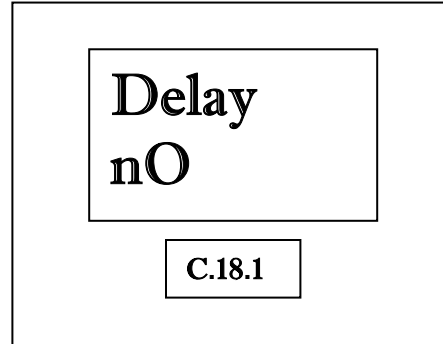

Figure 21
If the dispenser has not been programmed since it came from the factory, the option for NO delay (0) appears in the main display. This is the default setting. See Figure 21.